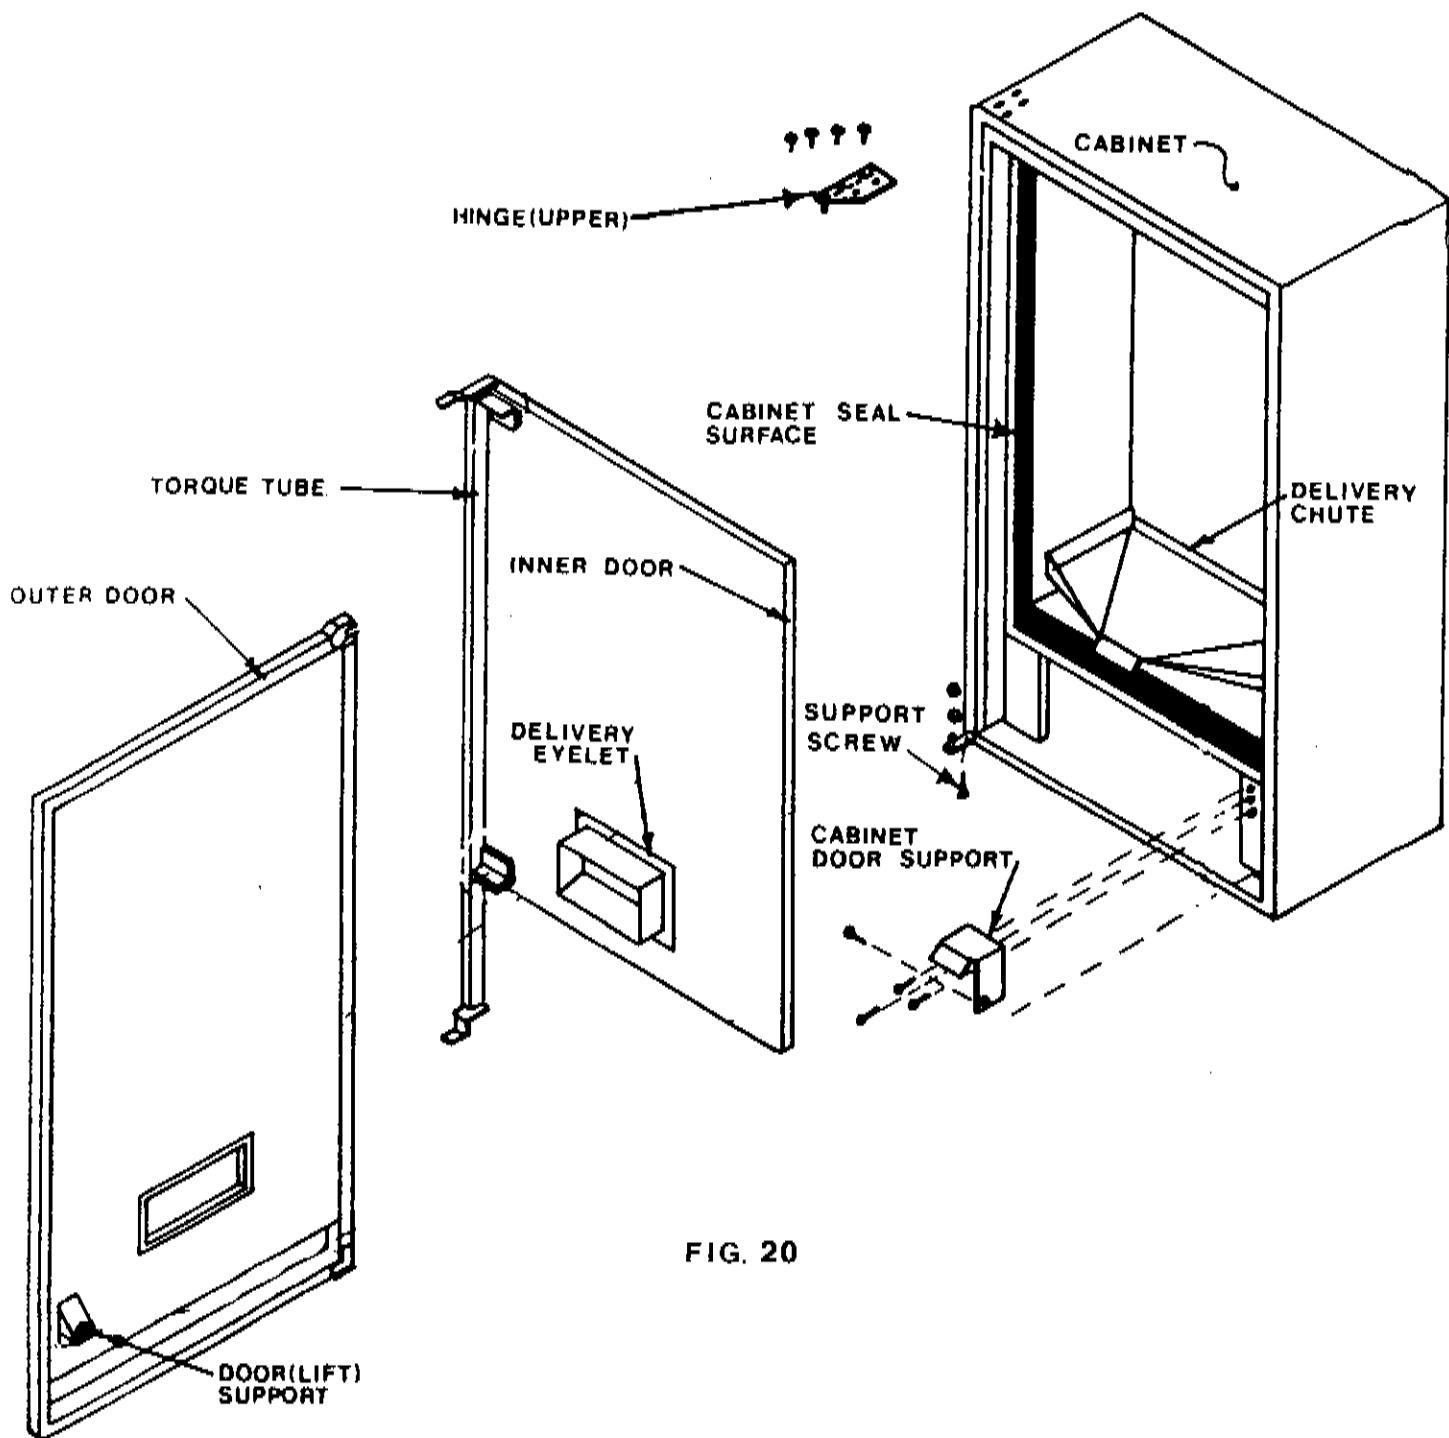

FIG. 20
**7. CHECK INNER DOOR ALIGNMENT SEE FIGURE 20**
**8. CHECK DELIVERY AREA ALIGNMENT SEE FIGURE 20**
**9. CHECK DOOR SUPPORTS SEE FIGURE 20**
**10. CHECK DOOR LATCH ALIGNMENT SEE FIGURES 20 & 21**